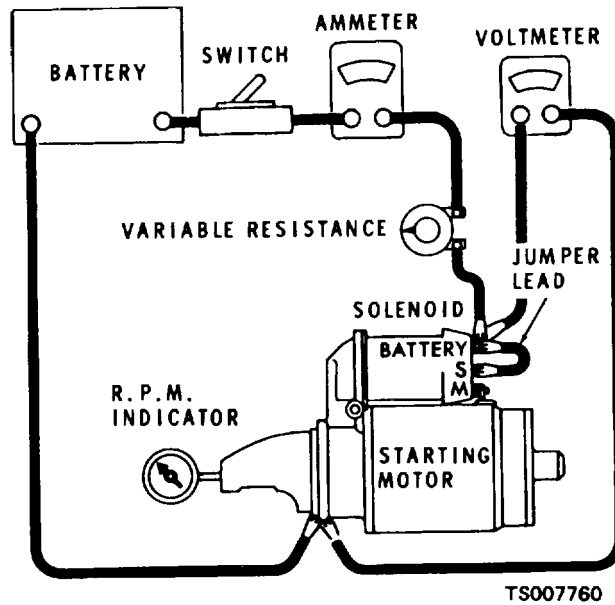

Figure 5-4. Engine Starter No-load Test Setup.
*a.* Connect the engine starter, a 12-volt battery, an ammeter, a variable resistor, and a voltmeter in a circuit (fig. 5-4). Close the switch to drive the starter. Vary the resistance until the voltmeter reads 9 volts. The ammeter must read between 50 and 80 amperes and the armature speed must be between 5500 and 10,500 RPM as indicated on a tachometer held against the shaft.